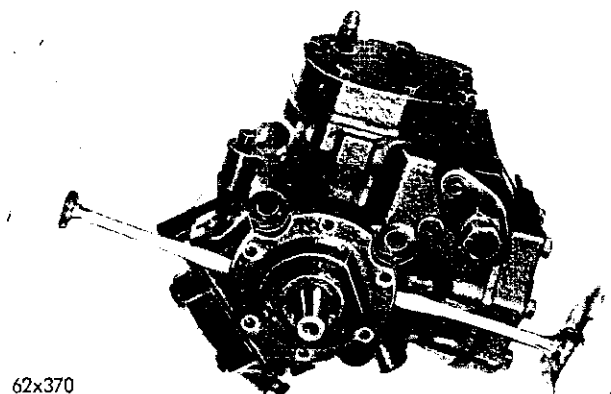

Fig. 47—Removing the Crankshaft Bearing Housing
- (1) Remove the crankshaft housing seal bolts.
- (2) Remove the bearing housing from the case, using two screwdrivers inserted in the slots provided to pry the housing from the case. (See Fig. 47).
- (3) Remove the crankshaft bearing housing seal face plate from the bearing housing. This is part of the gas seal replacement package and must be replaced when the gas seal assembly is replaced.